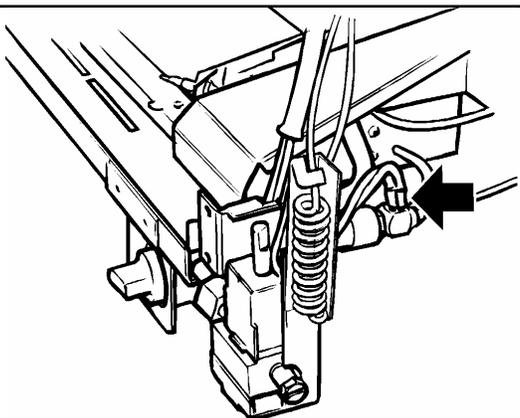

Fig. 34 Shut off switch wires connection (Models 737AN & 737AP)
- 7.2.10 *Models 737AN & 737AP:* For most servicing operations, the vent shut off switch wires can remain attached to the burner module. If the burner module must be completely removed from the appliance area, loosen the thermocouple connector at back of the gas valve to detach the wires (Fig 34).